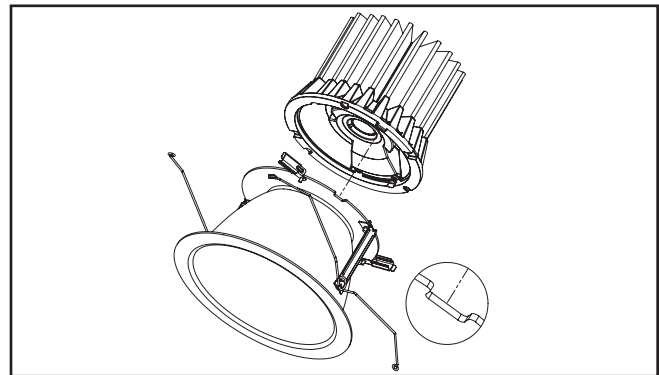

Figure 5
4. Insert LED engine on to trim assembly. Align post on LED engine with slot on trim assembly (Figure 5.).